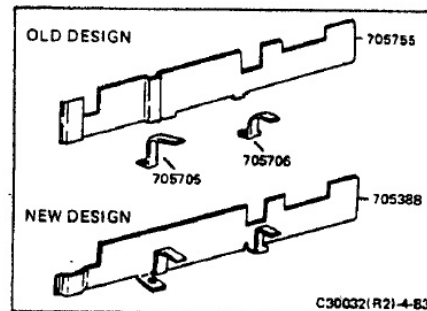

FIGURE 4-83 LOADING PLATES/MOTOR CLAMPS
7. Figure 4-83 compares the old motor clamp.